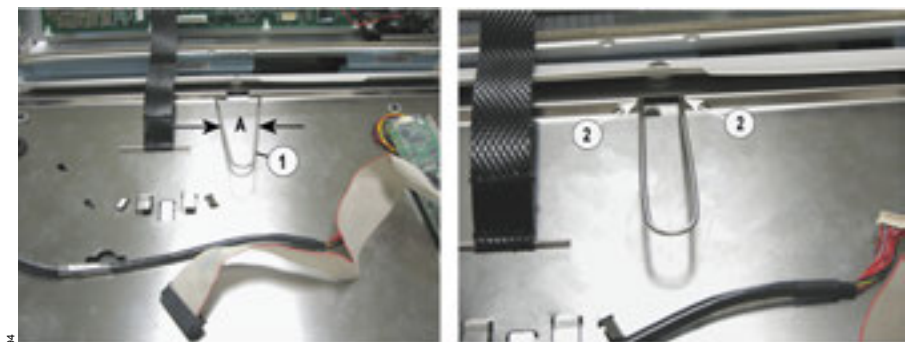

Fig. 49 Detail view of operator control unit: Locking spring (unlock position)
- 7 Using one hand to secure the operator control unit against falling down during removal, hold the locking spring (Fig. 49/1) pressed together towards **A** and set the locking spring to the unlock (park) position (Fig. 49/2).